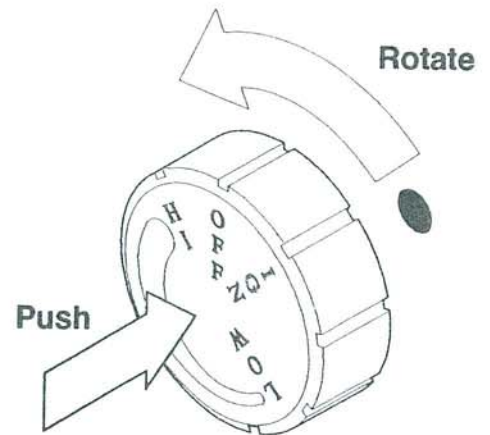

FIGURE 15. Control Knob
6. Turn the control knob counterclockwise  to the IGN position (FIGURE 15). Push in and hold control knob for 5 seconds.